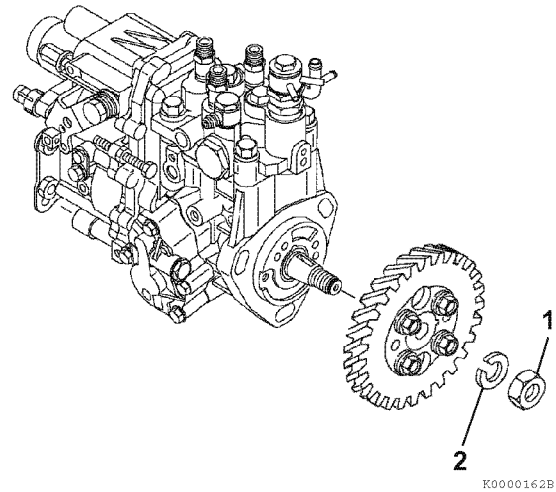

Figure 7-26
5. Reinstall the fuel injection pump drive gear lock washer (2, **Figure 7-26**) and nut (1, **Figure 7-26**). Do not lubricate the threads of the nut or shaft. Hold the crankshaft pulley bolt with a socket wrench and tighten the drive gear nut to the specified torque. *See Special Torque Chart on page 7-7.*